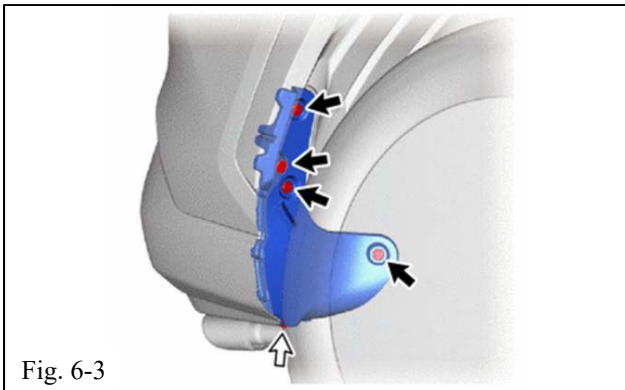

Fig. 6-3
- (e) Remove the (4) clips and (1) screw to remove the rear bumper side seal **RH without Mudguard** (Fig. 6-3).